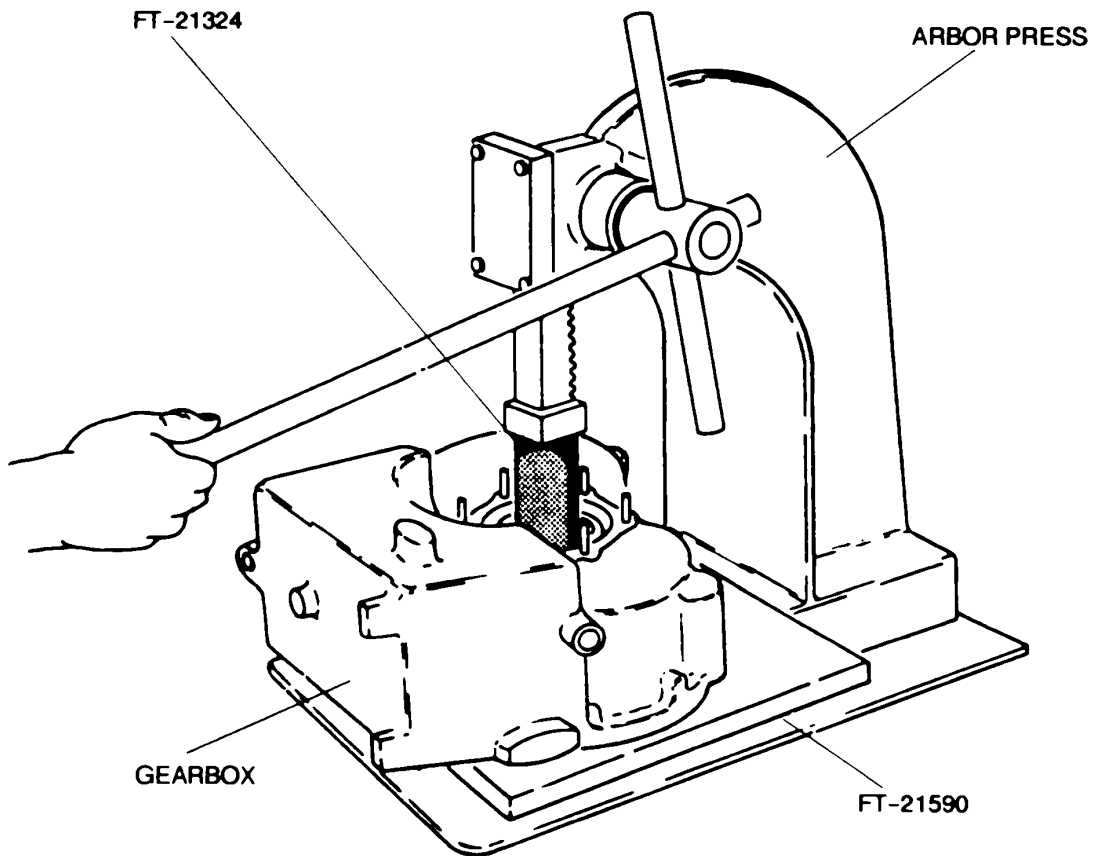

Figure 8-24. Installing Generator Shouldered Shaft Using Fabricated Tools FT-21590 and FT-21324
(14) Using bearing installation tool, fabricated tool FT-21324, and arbor press, ensure that generator shouldered shaft is seated into output spur gear (47) and bearing (46) See Figure 8-24.